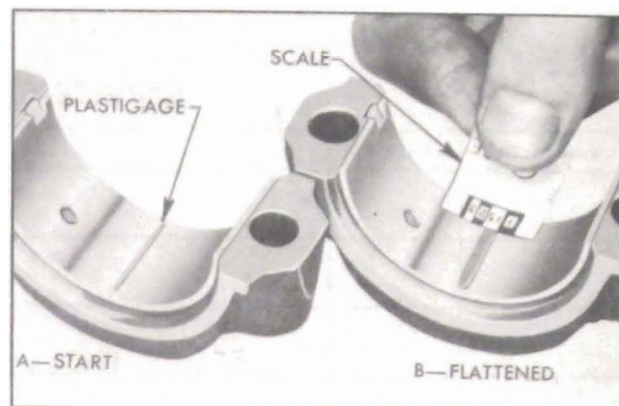

Figure 2-30—Checking Bearing Clearance with Plastigage
3. Place a piece of Plastigage lengthwise along the bottom center of the lower bearing shell (fig. 2-30, view A), then install cap. Tighten bolts to 40-50 ft. lbs. torque on *Series 40-50* engine, or to 60-65 ft. lbs. torque on *Series 70* engine. NOTE: *A ridge formed on edge of cap and a boss formed on web of rod*
6. Using the scale printed on the Plastigage envelope, measure the width of the flattened Plastigage at its widest point. The number within the graduation which most closely corresponds to the width of Plastigage indicates the bearing clearance in thousandths of an inch. See figure 2-30, view B.